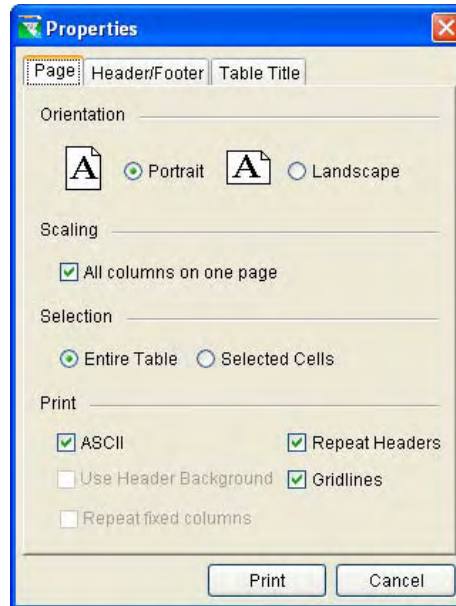

Figure 2.26 Printing Properties, Page Tab
- The Print **Properties** dialog box will open (Figure 2.26).
- From the **Page** tab (Figure 2.26), you can set the orientation (default is Portrait), make the report columns fit on one page, print the entire table (default) or print selected cells, repeat headers on subsequent pages, and display gridlines. By default the report prints in an ASCII format, if you want a screen image of the report, unclick ASCII and the report will print with any shading that you see on the report.
3. The **Properties** dialog box (Figure 2.26) will appear.